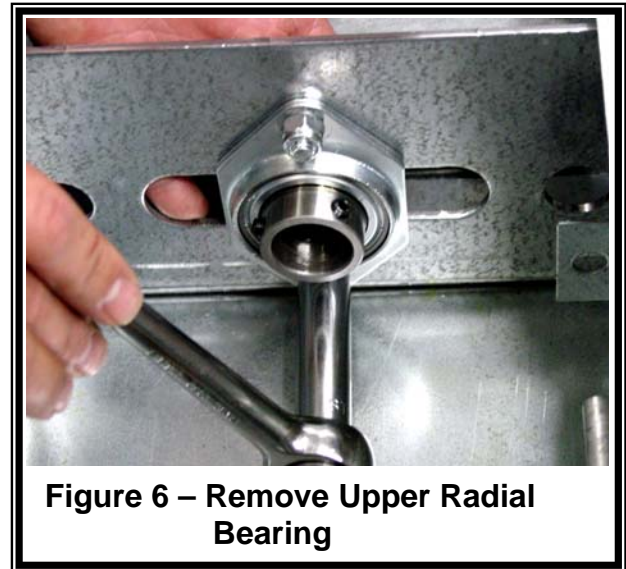

Figure 6 – Remove Upper Radial Bearing
- (17) Remove the two bolts holding the upper radial bearing and remove the bearing and housing hardware. Refer to Figure 6.